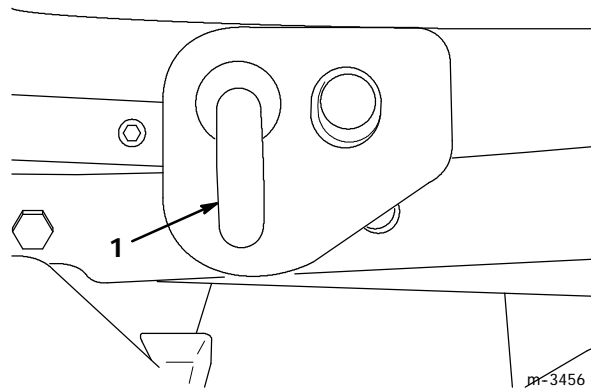

Figure 22
10. Pull the two spring-loaded J-pins from the deck lift arms and twist them slightly so that they stay disengaged (Fig. 22).